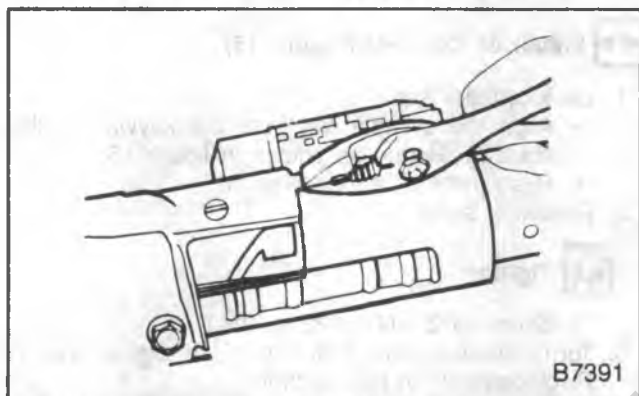

Figure 12—Removing Turn Signal Wire Protector
7. Wire protector. Pull downward out of the column with pliers using the tab provided (figure 12).